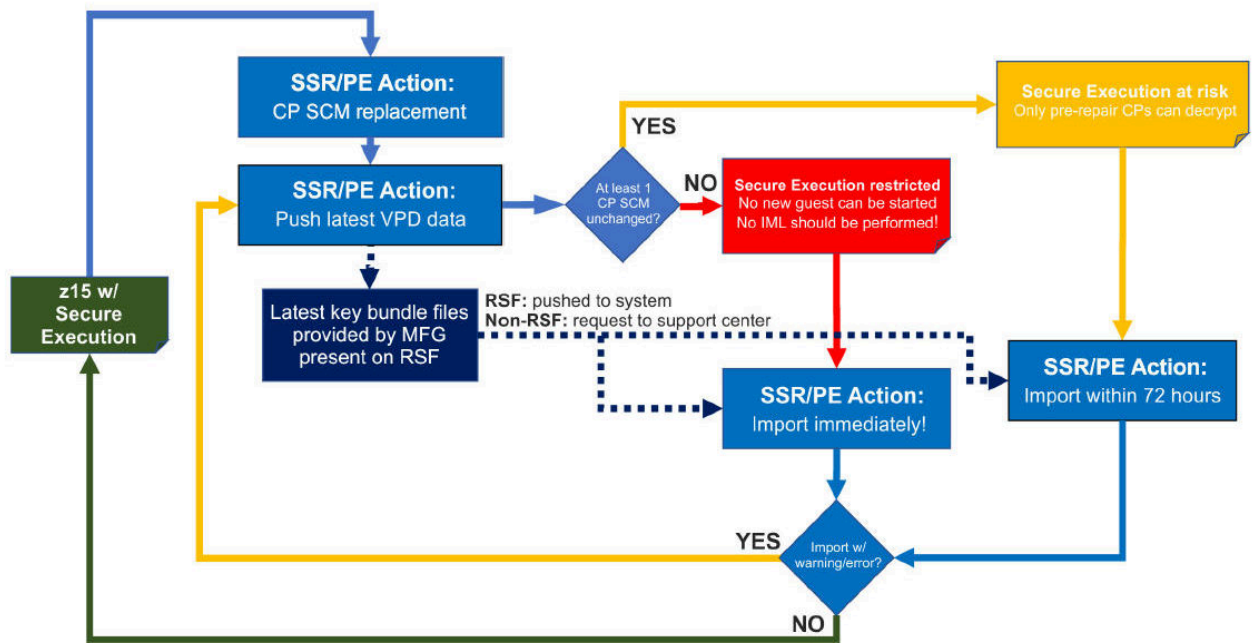

Figure 9. Service scenario flowchart - CP SCM replacement
- CP SCM replacement (see Figure 9 on page 185 for flowchart representation)